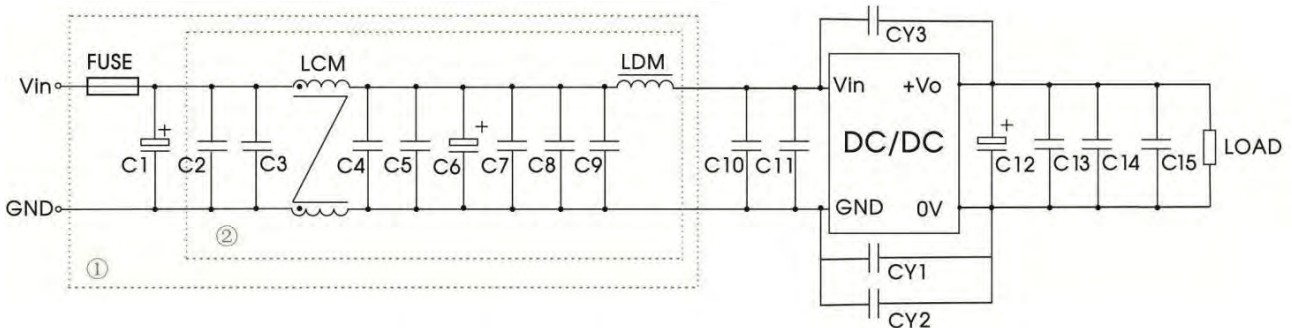

Fig. 3
Note: We use Part ① in Fig. 3 for Immunity tests and Part ② for Emissions test. Selecting based on needs.